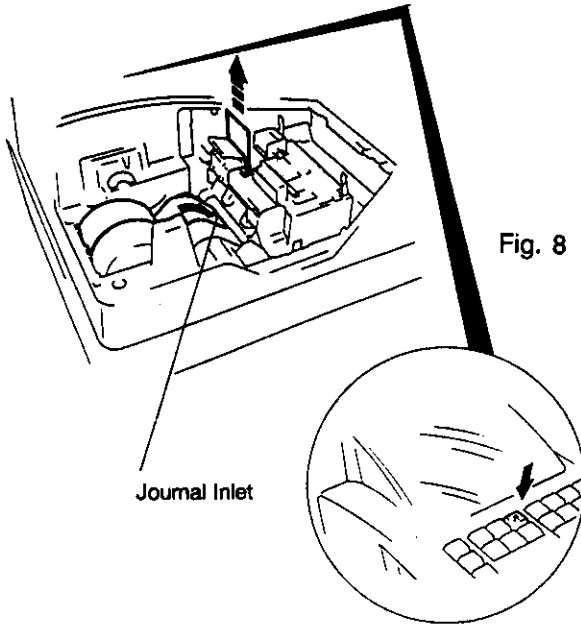

Fig. 8
5. Insert the paper end into the Journal Inlet, then feed the paper by pressing the [JF] key. (Fig. 8)